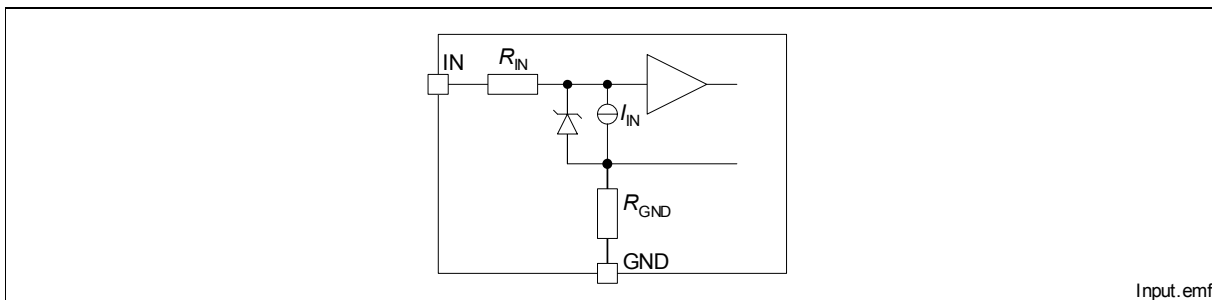

Figure 5 Input Circuit (IN1 and IN2)
**Figure 5** shows the input circuit of the BTS 5235G. There is an integrated input resistor that makes external components obsolete. The current sink to ground ensures that the device switches off in case of open input pin. The zener diode protects the input circuit against ESD pulses.